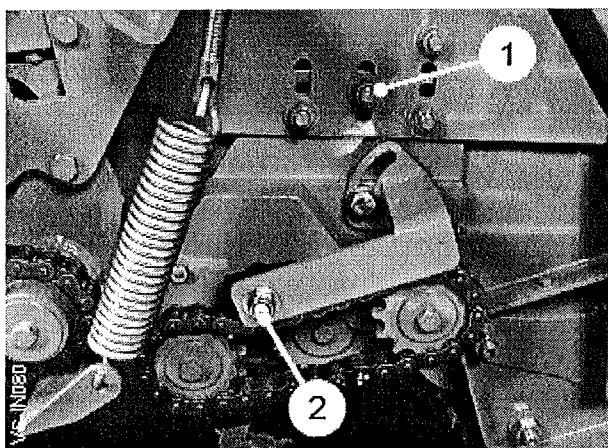
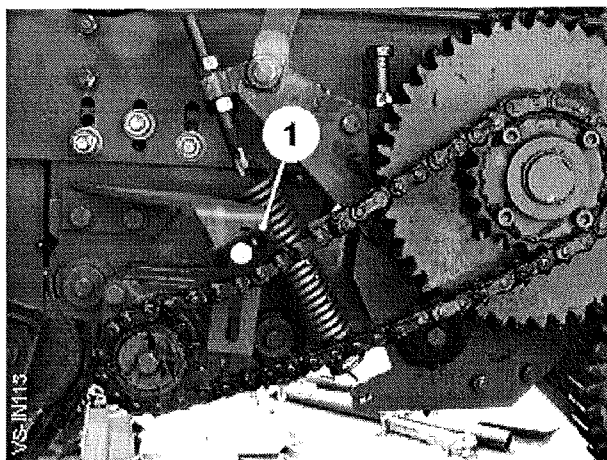

Fig 15
Fig 16
The relative height of the stars behind the haulm roller can be set by the mounting bolts (item 1, fig 15) on either side of the chassis. Ensure the unit is level by checking the height of the top of the stars below the top of the chassis web sides. Drive input to the star separator is from the right hand end of the digger web drive shaft. Two chain tensioners (item 2, fig 15 and item 1, fig 16) are fitted to maintain the correct drive tension, and to prevent jerking in the star drive.